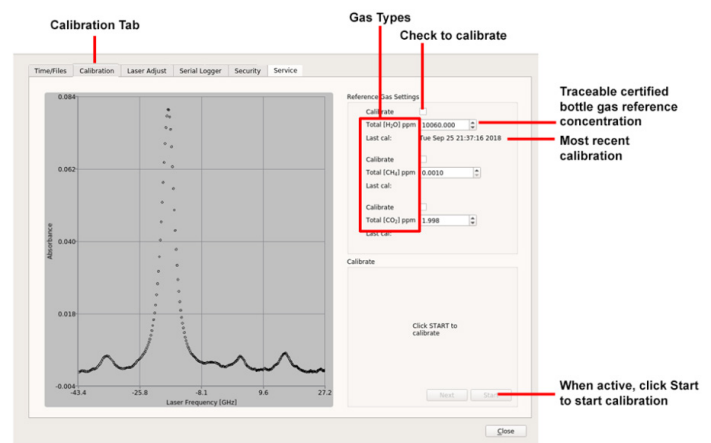

Figure 35 Calibration Tab
- 1 Click **Setup**, then the **Calibration** tab (Figure 35).